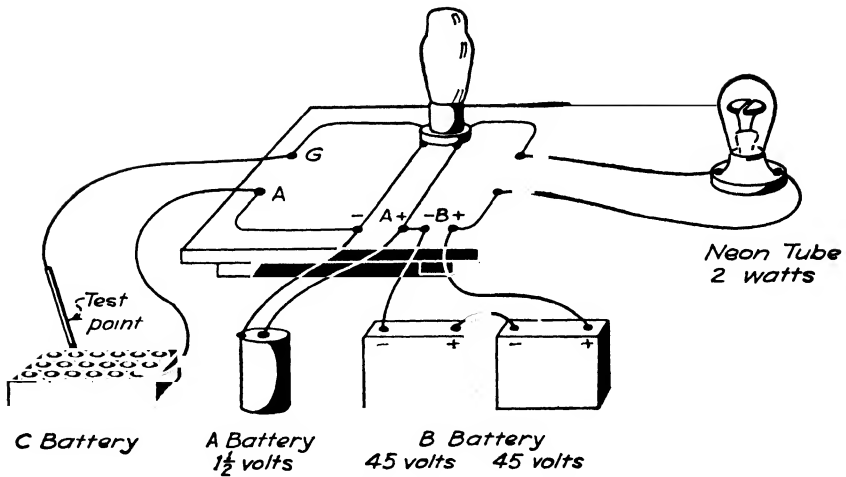

FIG. 74. This is the way to hook up the tube board for the grid test with grid negative. For the test with the grid positive, reverse the C battery.
Now set up an experiment and see how this grid can control the flow of electrons through the tube. Use the same tube circuit board that you used in studying the vacuum tube (see Fig. 74).
Step 1. Attach test points to the A and G posts on the set board (see Figs. 74 and 75). Clip the A-minus connecting wire to the plus end of the C battery.
Step 2. Touch the test point from the G post to the first flashlight cell at the C-plus connecting wire. Move this test point from cell to cell. This will gradually make the voltage on the grid increasingly negative. Watch the brightness of the neon glow tube change. Continue until you have connected all of the flashlight cells into the circuit, at which time the test point will be placed as in Fig. 74.